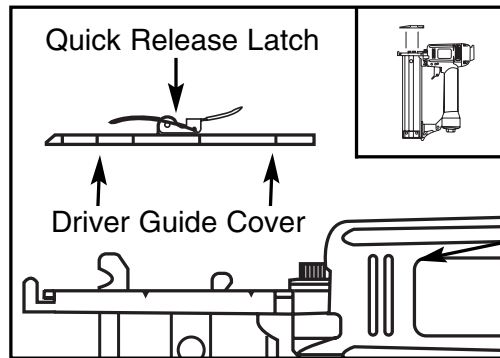

Figure 5. Removing guide cover.
3. Flip up the quick release latch that is located on top of the nailer nose assembly as shown in **Figure 5**.